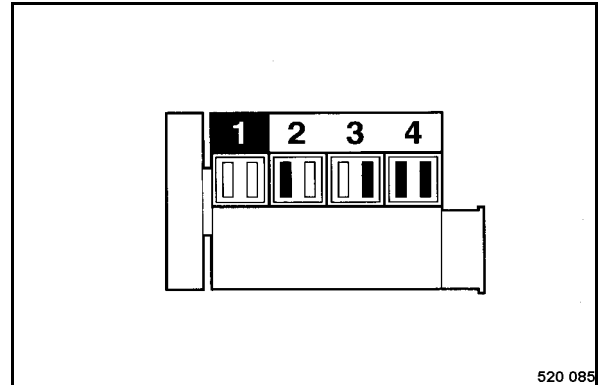

Fig. 166
- Crank the engine with the starter until both valves on cylinder 1 (Fig. 166) are “overlapping”.
The valves marked black (Fig. 166) can be checked and adjusted.